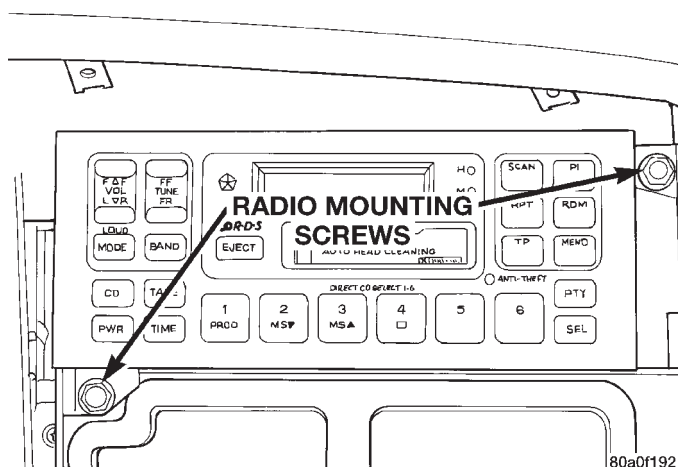

Fig. 3 Radio Remove/Install
- (4) Pull the cluster bezel rearward and move it to the left of the steering wheel to remove it from the vehicle.
- (5) Remove the two radio mounting screws from the front of the radio (Fig. 3).